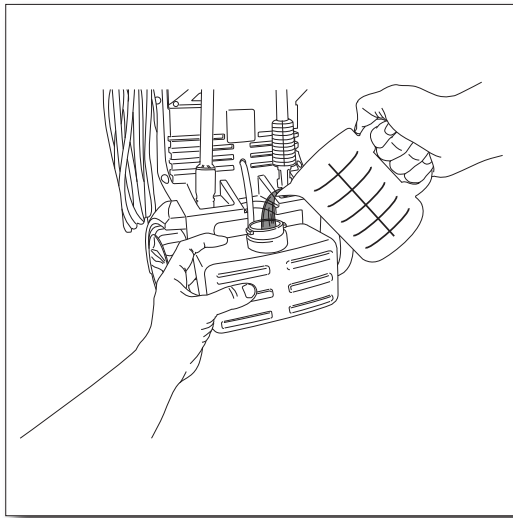
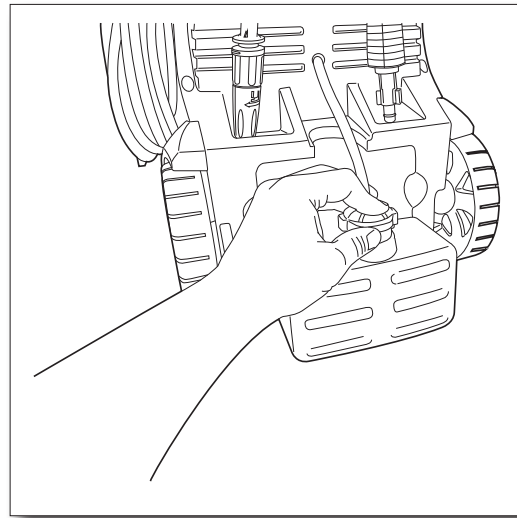

Fig. 13
Fig. 14
- When using the detergent, fill it with a properly formulated detergent or cleaner with water ratio according to instructions on the container (**Fig. 13**). The detergent tank comes with a straw which is fitted into the screw-on top. If you don't see the straw, look inside the bottle and attach it to the screw-on top (**Fig. 14**).